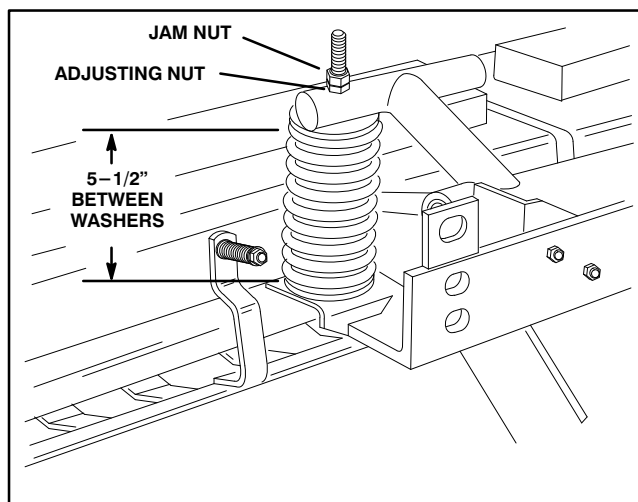

Figure 2
3. Assemble the springs and washers as shown in Figure 2. Assemble both springs and insert the long bolts from the bottom.